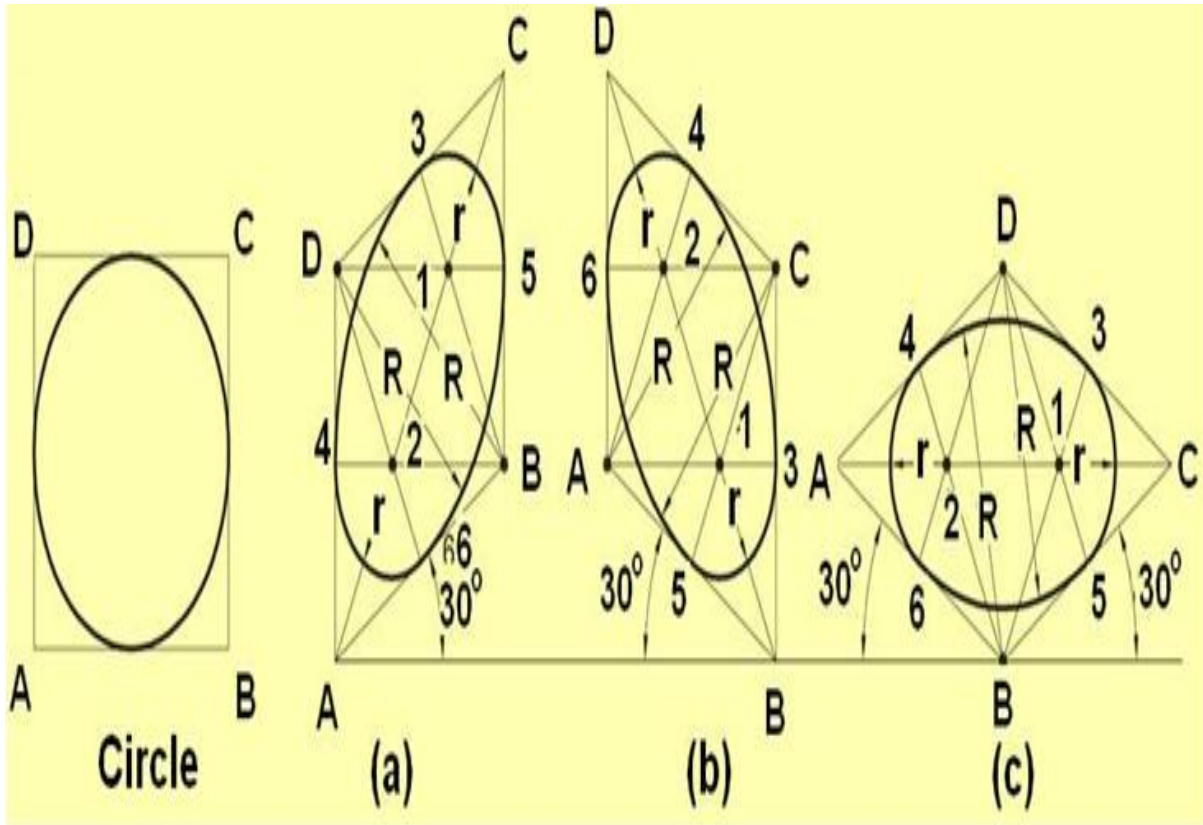

**Figure 17. Method of obtaining the isometric views of a pentagon.**
- Enclose the given pentagon in a rectangle and obtain the parallelogram as in Fig. 17 (a) or (b) or (c).